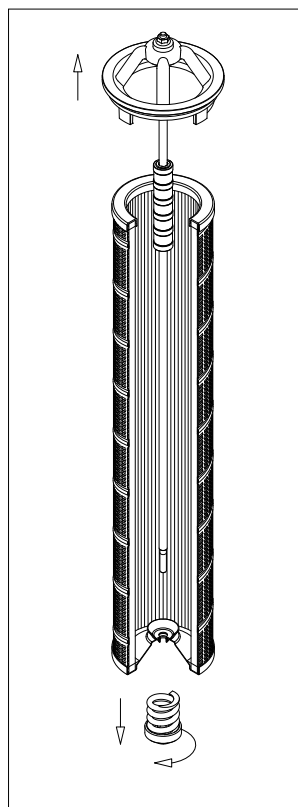

fig. 8
- (Fig. 8) Unscrew the bypass nut at the bottom of the internal filter and pull the insert-tie rod assembly out